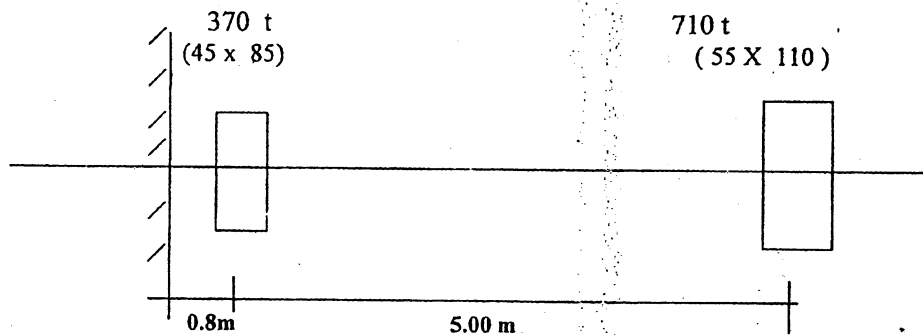

Figure 2
- 2.b) For the two columns shown in Figure 2, suggest a suitable type of pile foundation. Each pile is 50-cm in diameter and carrying a working load of 90 t. Without design calculation, draw sketches in plan and elevation (scale: 1:50) showing the concrete dimensions and reinforcement arrangement. Minimum clear distance between the piles and adjacent property line is 90 cm.